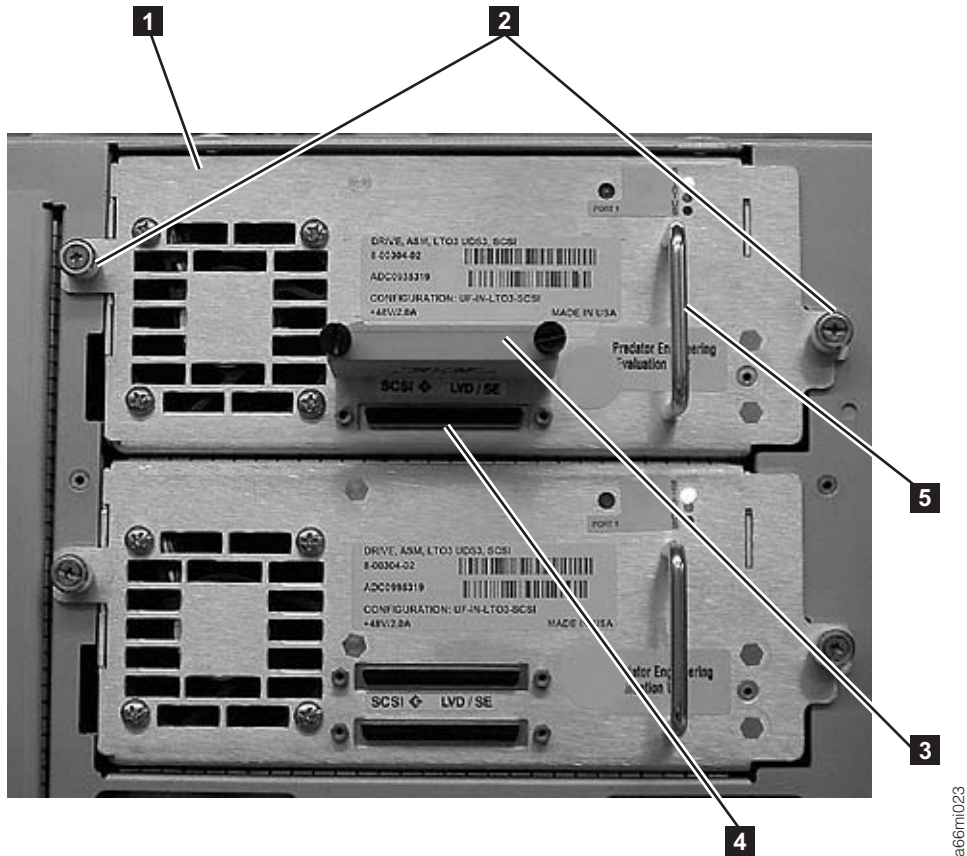
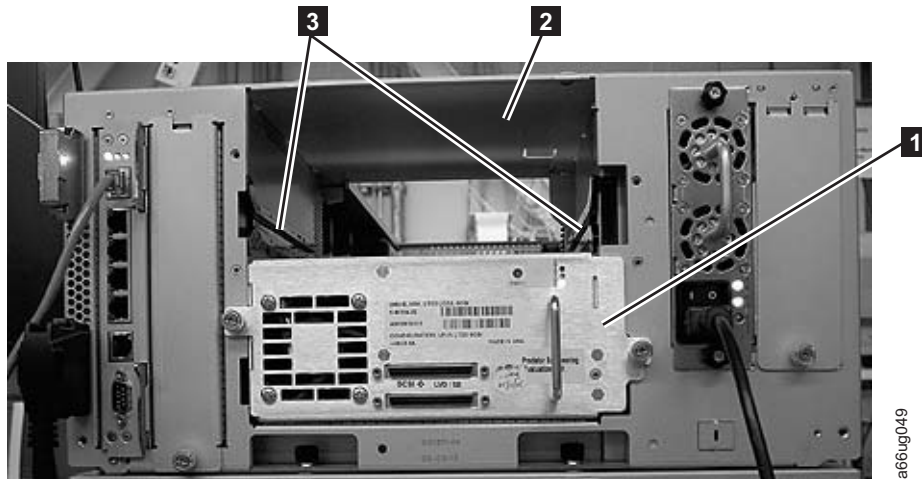

Figure 12-15. Drive sled (detail)
Figure 12-17. Drive sled slot
3. Loosen the two thumb screws (2 in Figure 12-15) that hold the drive in place by turning them counterclockwise.
4. Slide the drive out of the library module. Grasp the handle (5 in Figure 12-15) and slowly pull the drive toward you, while supporting the drive sled from underneath.
1. Align the drive sled with the guide rails and guide slots along the tracks (**3** in Figure 12-17) in the open drive sled slot (**2** in Figure 12-17). Grasp the handle (**5** in Figure 12-15 on page 12-19) and slowly slide the drive sled into the library, while supporting the drive sled from underneath.
2. Tighten the two thumb screws (**2** in Figure 12-15 on page 12-19) that hold the drive sled in place by turning them clockwise.
- a. For a SCSI drive sled, plug the cable and terminator into the drive sled. Tighten the thumb screws that hold the SCSI cable (**4** in Figure 12-15 on page 12-19 shows the SCSI receptacle) and terminator (**3** in Figure 12-15 on page 12-19) in place by turning them clockwise.